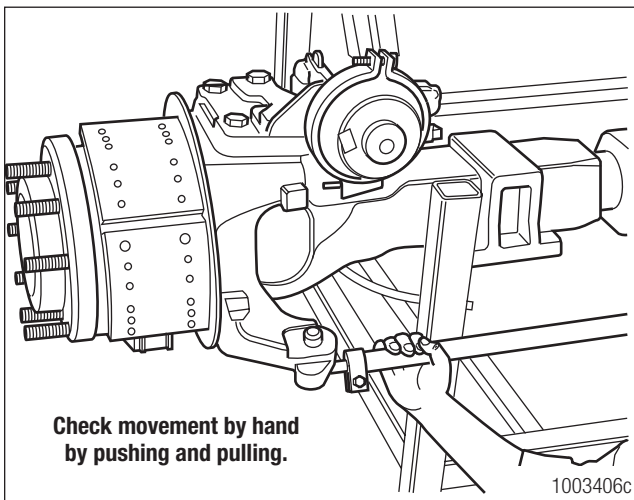

Figure 11.15
11. Use a push-pull movement to apply approximately 100 pounds (45 kg) of hand pressure several times to the tie rod assembly. Check for movement or looseness at both tie rod ends. Figure 11.15.